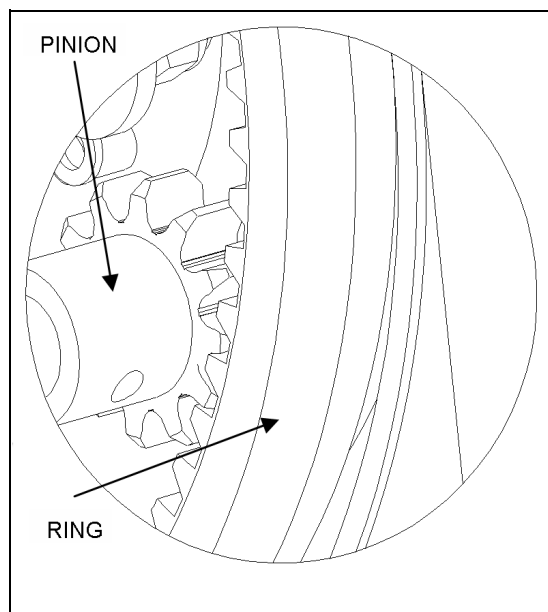

Figure 3.6 Pinion Gear Alignment
2. Inspect how the pinion gear fits with the ring gear (Figure 3.6).
The pinion gear should mesh with the ring gear to provide maximum tooth contact (Figure 3.6).